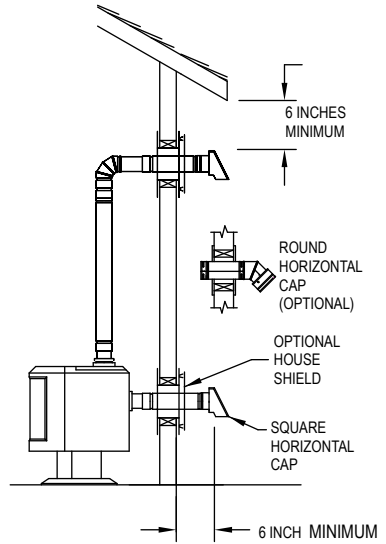

Figure 6
House Shield as shown in **Figure 6**. The House Shield is used to protect the exterior wall from vent discharge. Attach a Square or Round Horizontal Cap. The Round Horizontal Cap can be swiveled to be directed away from nearby objects (fence, plants, etc.), but must still be pointing in a generally downward direction. Important: Horizontal Caps must be pointed in a generally downward direction to insure rain and snow do not enter the cap, and cause potential damage to the appliance. Either vent Cap should be at least 6" from the wall.
5. If the flue exit is on back of the stove, and a horizontal through-the-wall installation is desired (**Figure 6**):